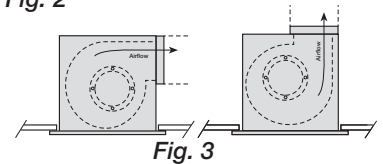

Fig. 3
3. Check ductwork to see if the fan's discharge requires rotation from horizontal to vertical discharge, shown in Fig. 3.